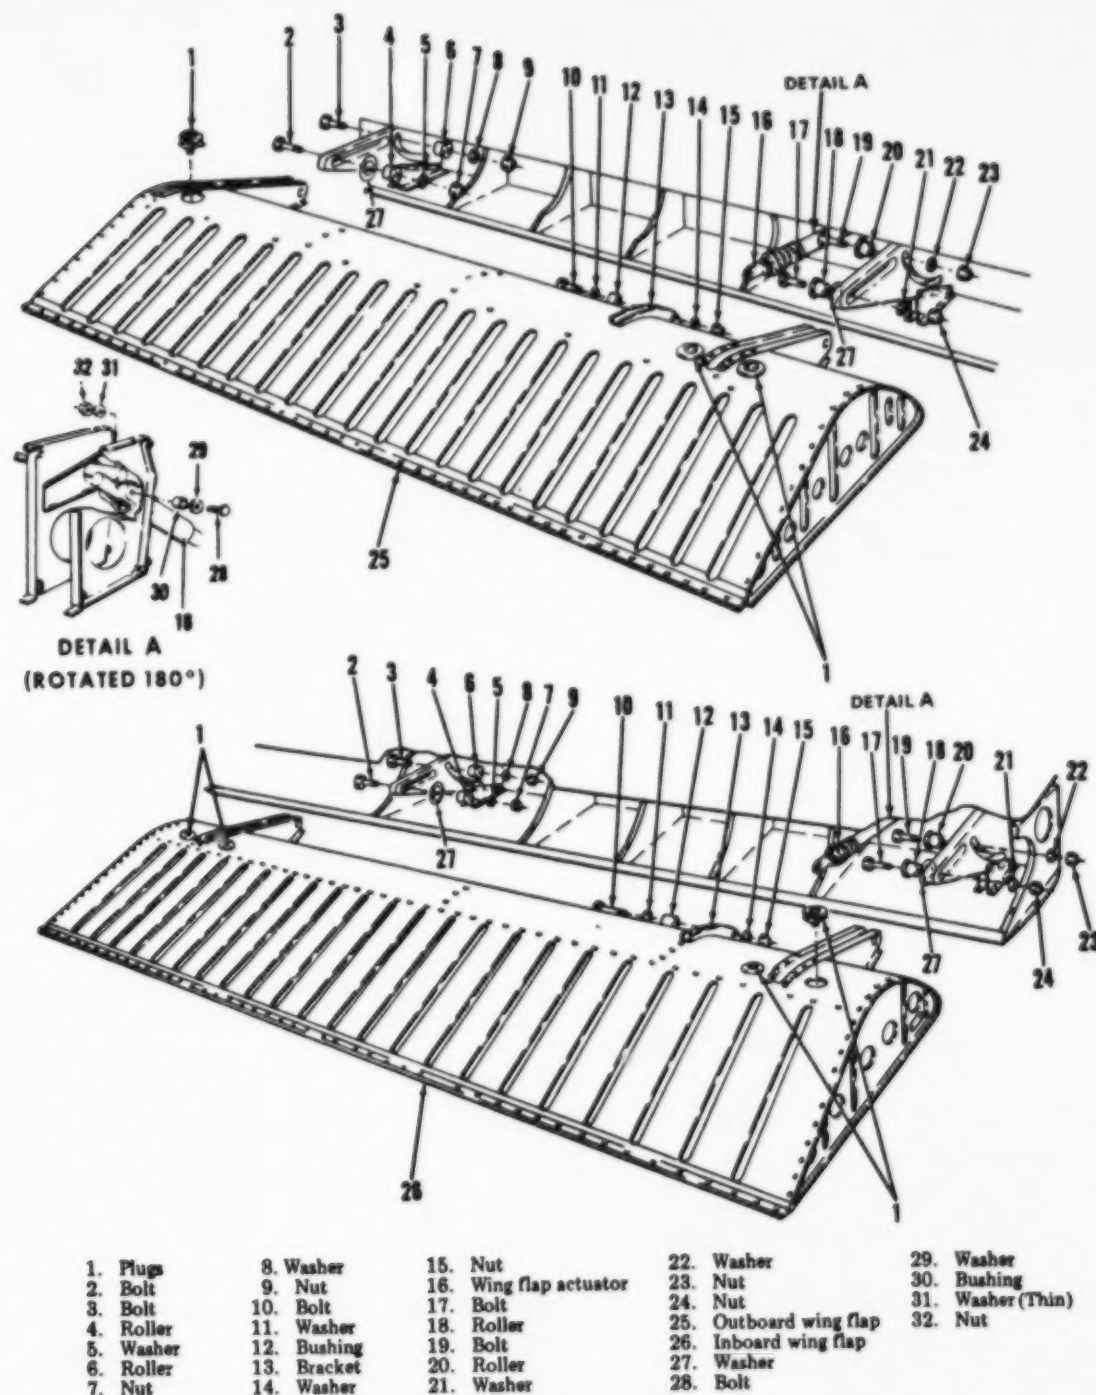

Figure 9-2. Wing flaps
9-14. The outboard and inboard wing flaps (25 and 26, figure 9-2) are constructed of aluminum alloy with a magnesium alloy stressed skin. There are four wing flaps on each U-8 aircraft, two on each wing. The wing flaps are attached to the trailing edge of the wings, between the inboard end of the ailerons and the fuselage. Each wing flap is chemically treated, internally
(1) Place wing flap control switch in DOWN position as soon as wing flaps are fully down, place wing flap control switch in OFF position.
(2) Disconnect wing flap actuator (16, figure 9-2) from bracket (13) by removing bolt (10), washers (11 and 14), and nut (15). Remove end of wing flap actuator from bracket and remove bushing (12) from end of wing actuator.
(3) Loosen screws and remove plugs (1) from wing flap.
(4) Remove screws and nuts and remove end of bonding cables from flap brackets.
(5) Remove bolts (3 and 19), washers (8 and 22), and nuts (9 and 23) connecting forward end of flap brackets to forward track of wing brackets.
(6) Support wing flap. Remove bolts (2 and 17), washers (5 and 21), and nuts (7 and 24) and remove wing flap.
(7) Remove rollers (4, 6, 18, and 20) and, when installed, washer (27), from tracks of wing brackets.
c. Inspection. (1) Inspect wing flaps for cracks, dents, loose or missing rivets, and corrosion.
(1) Position rollers (6 and 20, figure 9-2) in forward tracks of wing brackets and rollers (4 and 18) with washer (27), if used, in rear tracks of wing brackets.